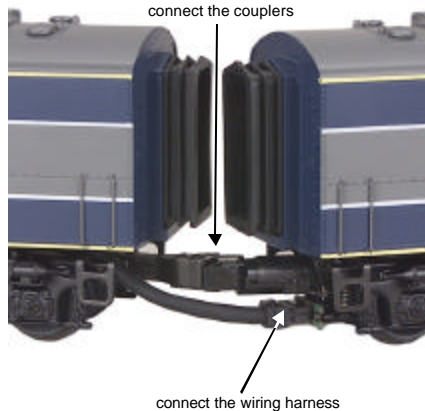

Figure 1. Connecting the Units Together.
4. Place the engine on the track. Plug in the wiring harness between each unit (located underneath the couplers), then couple the unit together (see Fig. 1).